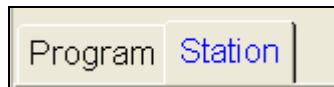

Figure 16.2.1D
1. In the “**Controller Schedule**” screen click on the **Station** tab (Figure 16.2.1D).